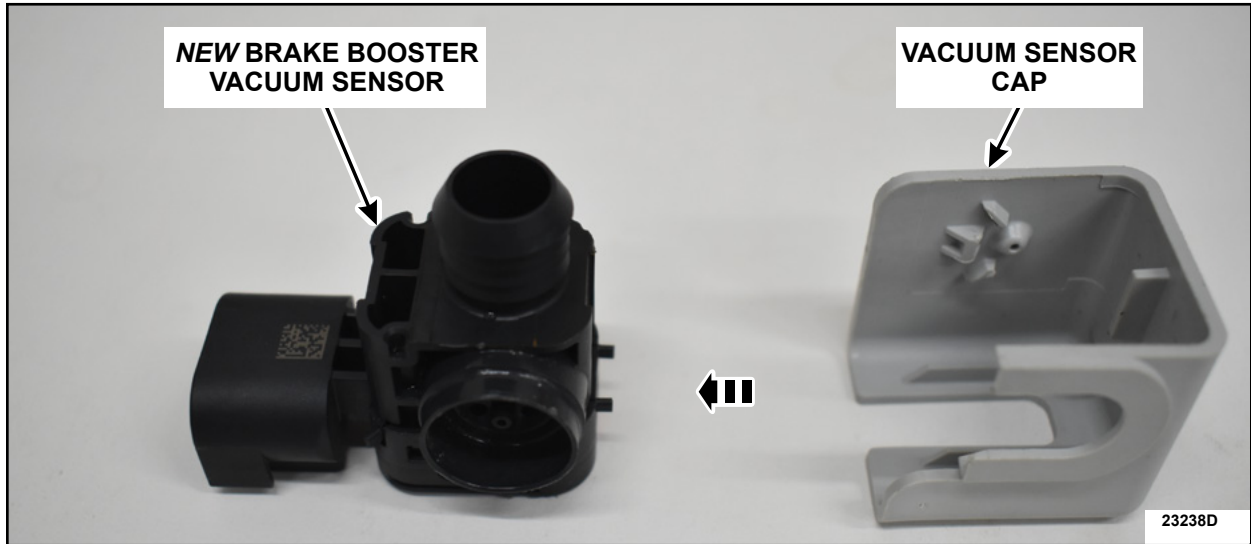

FIGURE 4
4. Install the vacuum sensor cap onto the *new* brake booster vacuum sensor. See Figure 4.